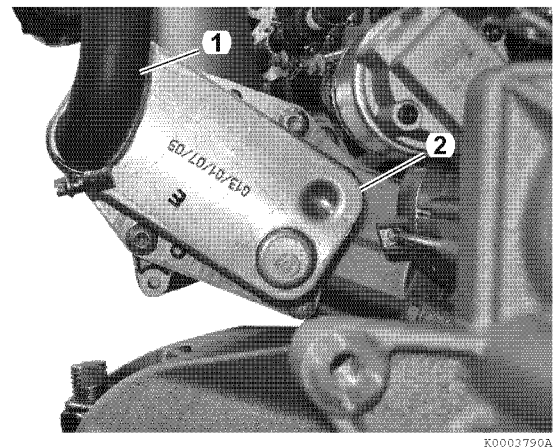

Figure 8-13
6. Disconnect coolant pipe hose (1, **Figure 8-13**) from oil cooler (2, **Figure 8-13**).